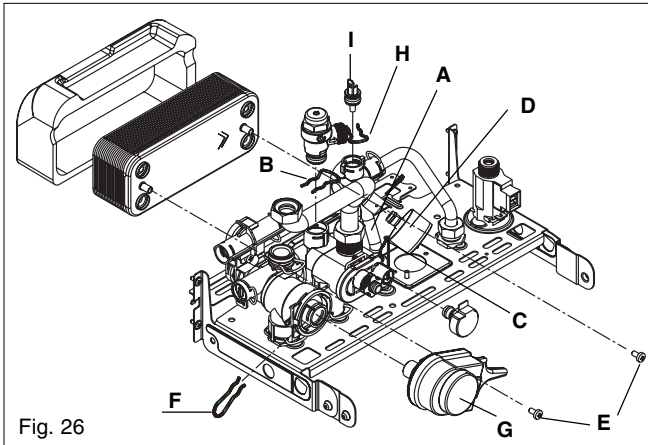

Fig. 26
6.6 SAFETY VALVE (fig. 26)
6.8 WATER PRESSURE SENSOR/GAUGE (fig. 26)